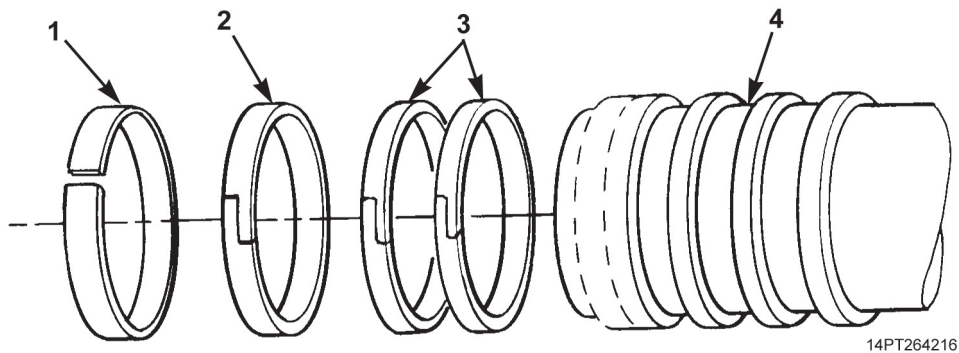

Figure 12. Wear Ring and Piston Ring Removal From Sleeve.
18. Remove wear ring (Figure 12, Item 1), piston ring (Figure 12, Item 2), and two piston rings (Figure 12, Item 3) from other end of sleeve (Figure 12, Item 4). Discard wear ring.